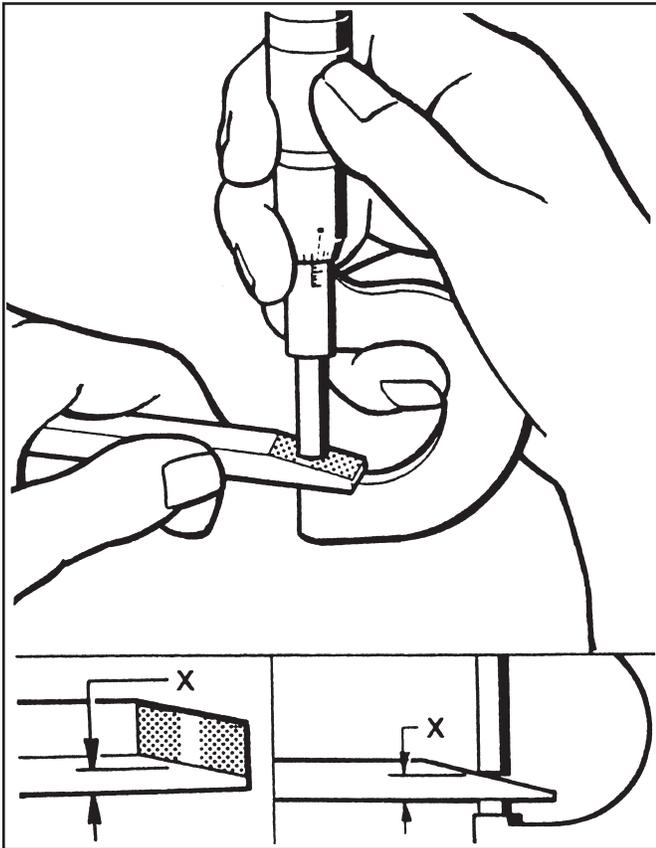

Figure 9.12 - Measuring Piston Stroke
- The solid shoulder will scrape the bluing off the Gap Tool as shown in Figure 9.12 on the next page. To get an accurate measurement, slightly push the Gap Tool side to side when it is firmly inserted. (This will remove the bluing in a straight line rather than an arc.)
- Measure distance "X" with a micrometer as shown in Figure 9.12. Compare the measurement with the tabulated limits shown in the Piston Stroke Table below.